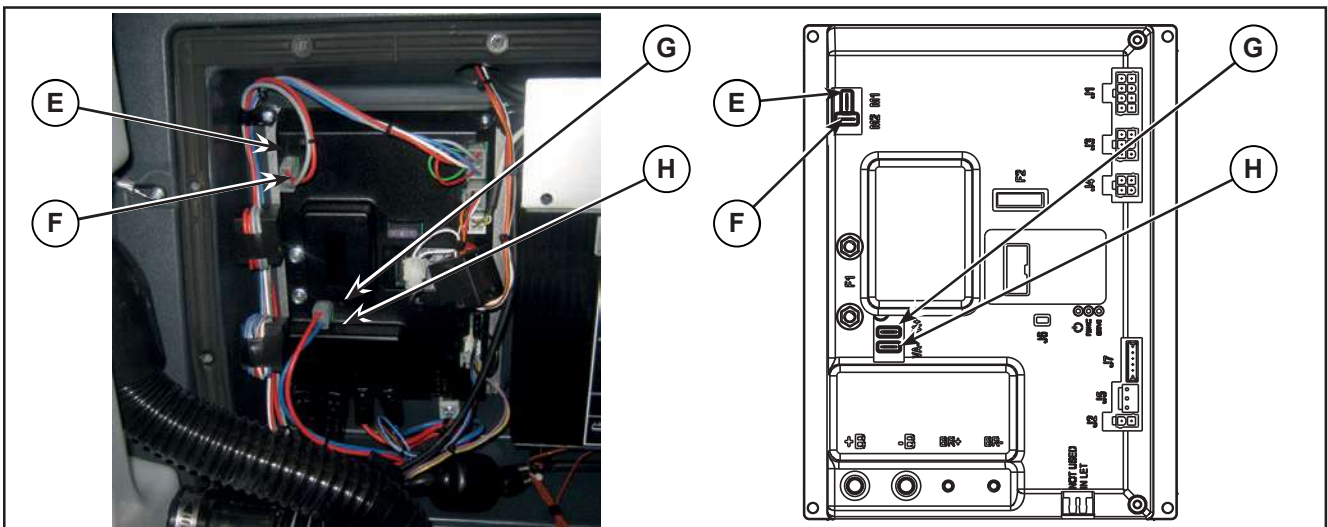

Figure 13:
5. Disconnect the following connections sequentially (Figure 13):
- (E) and (F) Drive system motor connection (M1) and (M2).
- (G) and (H) Vacuum motor connection (VA+) and (VA-).